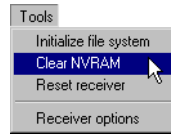

Figure 4-11. Tools->Clear NVRAM
2. Click **Tools->Clear NVRAM** (Figure 4-11).